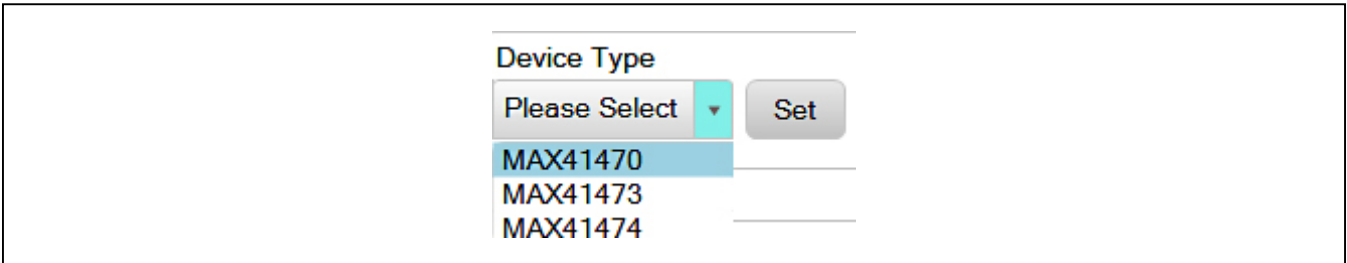

Figure 10. Part Selection
- c. Enter a supply level into the “Voltage” text box in units of V and click the <Set> button; for example, enter “3.3” for a 3.3V supply (see Figure 10).